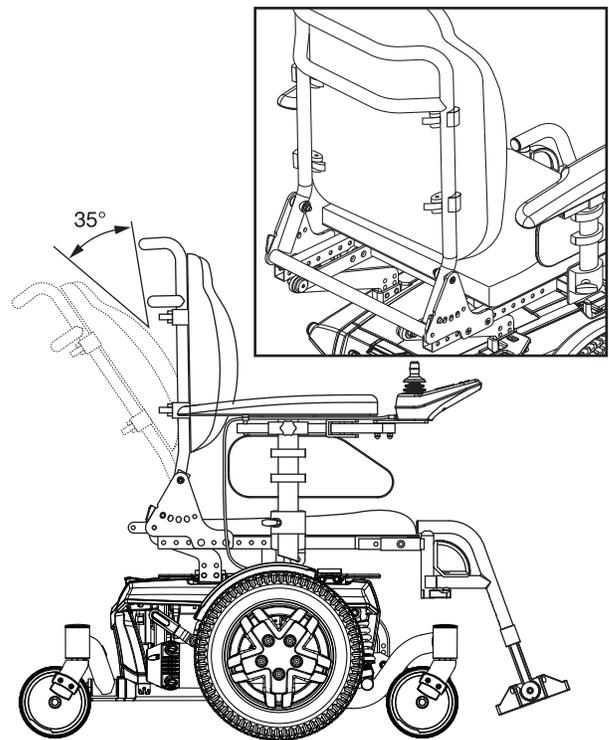

Figure 8. Manual Recline Seatback Adjustment
1. Pull the adjustment strap on the bottom portion of the seatback. **See figure 8.**